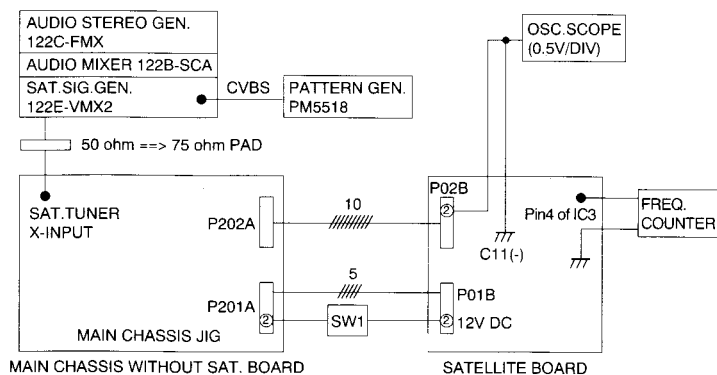

Fig. 10
① Preparations
- Connect equipment as shown in fig.10.